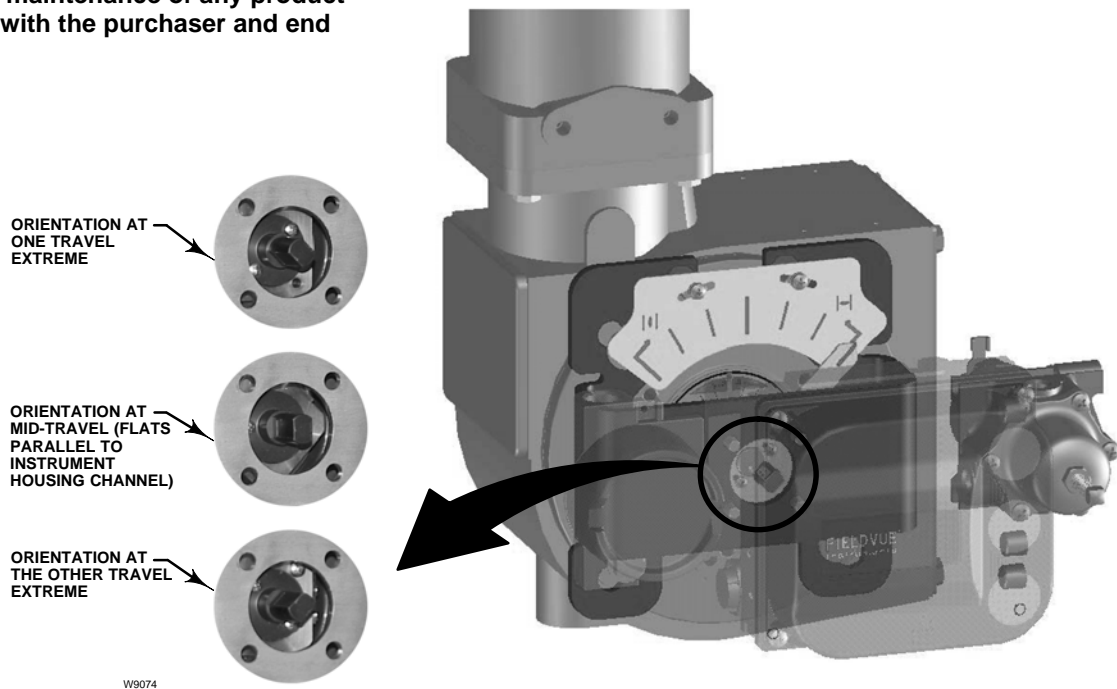

Figure 1. Magnet Assembly Orientation
2. The instrument can be mounted in four different orientations on the 1051 or 1052. Figure 1 shows the instrument mounted upright relative to the actuator spring barrel.
The magnet assembly must be oriented per figure 1, so that the flats are approximately as shown relative to the channel in the instrument housing when at the mid-travel position.